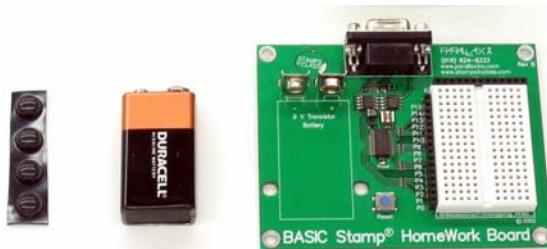

Figure 1-27
- ✓ Collect the following parts from your kit, shown in Figure 1-27
- (1) Basic Stamp HomeWork Board